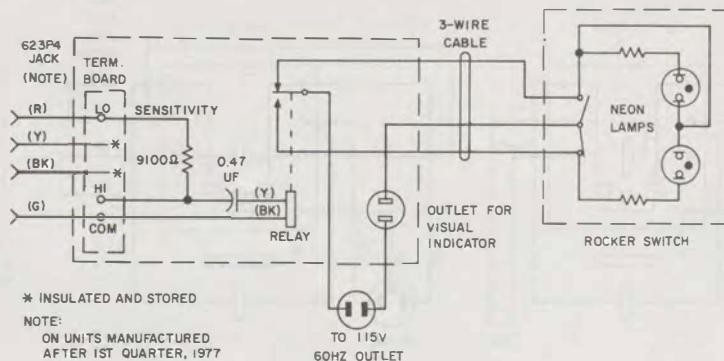

Fig. 31—KS-20614, List 1 Relay Switch—Schematic
4.03 KS-20614L1 Relay Switch (Fig. 31):
6.08 The KS-20614 relay switch connections are shown in Fig. 31 and 32.